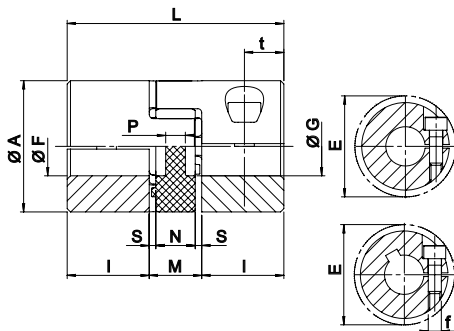

Fig. 1
- 2 setscrews at 120° (Fig. 1)